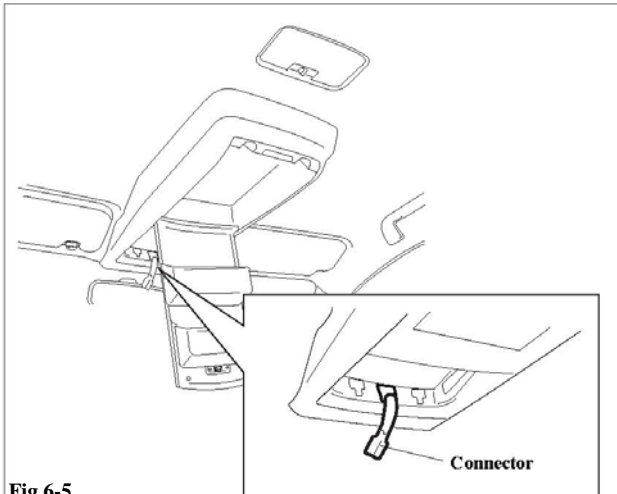

Fig.6-5
- (e) Run the connector into the hole on the overhead console, as shown in Fig.6-5.